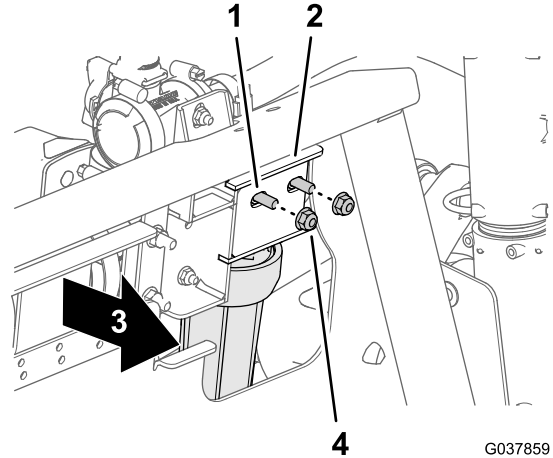

Figure 62
3. At the front, left side of the valve mount, remove the 2 flange locknuts (5/16 inch) that secure the pressure filter to the manifold bracket (Figure 62).